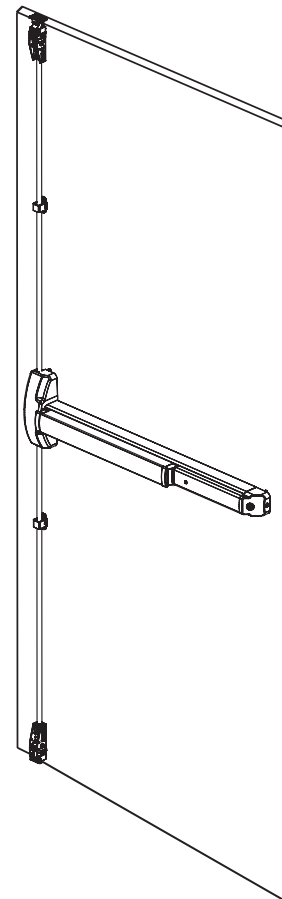

Figure 17: Final Exit Device Assembly
1. Finally, check and inspect operation of (Figure 17):